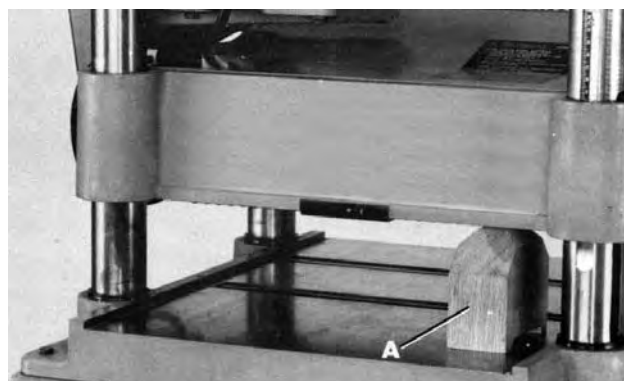

FIGURE 31
3. Move gauge block (A) Fig.31 to opposite end of table, as shown. The distance from table to edge of head casting should be the same.